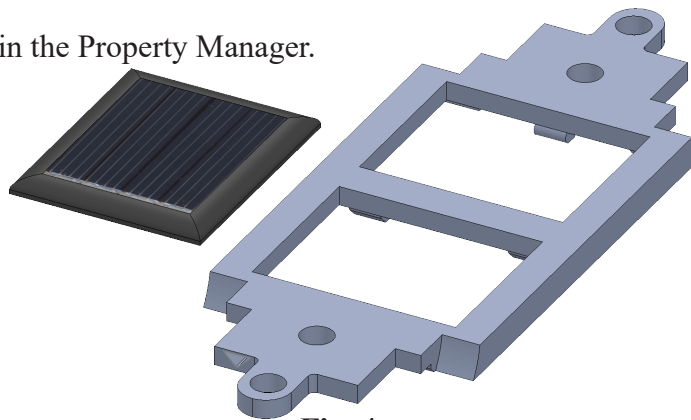

Fig. 4
Step 5. Place the Solar Panel in the graphic area, **Fig. 4**.